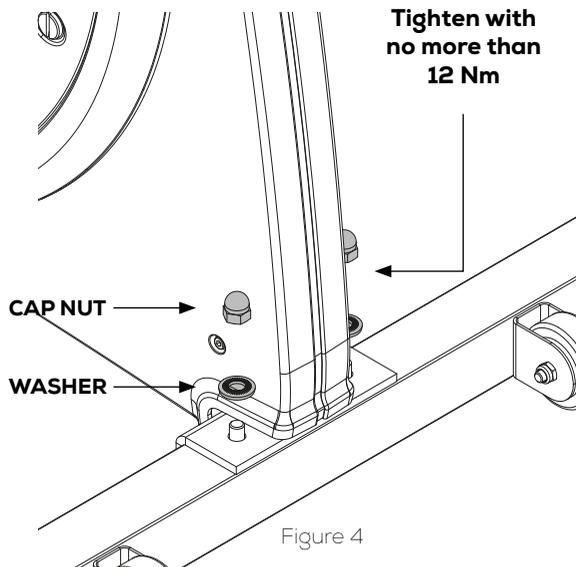

Figure 4
- 3) Put on the spring lock washer and the cap nut and tighten by using a 13 mm wrench, see figure 4.